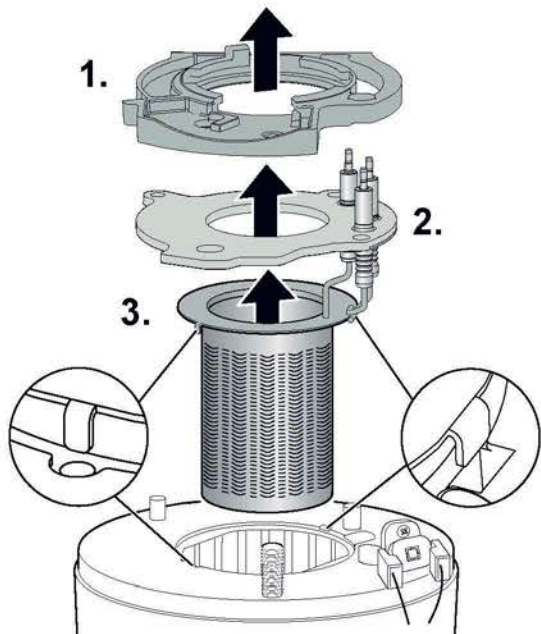

Fig. 84 Electrode assembly and burner
- ▶ Refer to figure 84 and disconnect spark electrodes and flame sensor connection.
- ▶ Ensure that burner tabs, as shown in figure 84, fit correctly their respective locations.